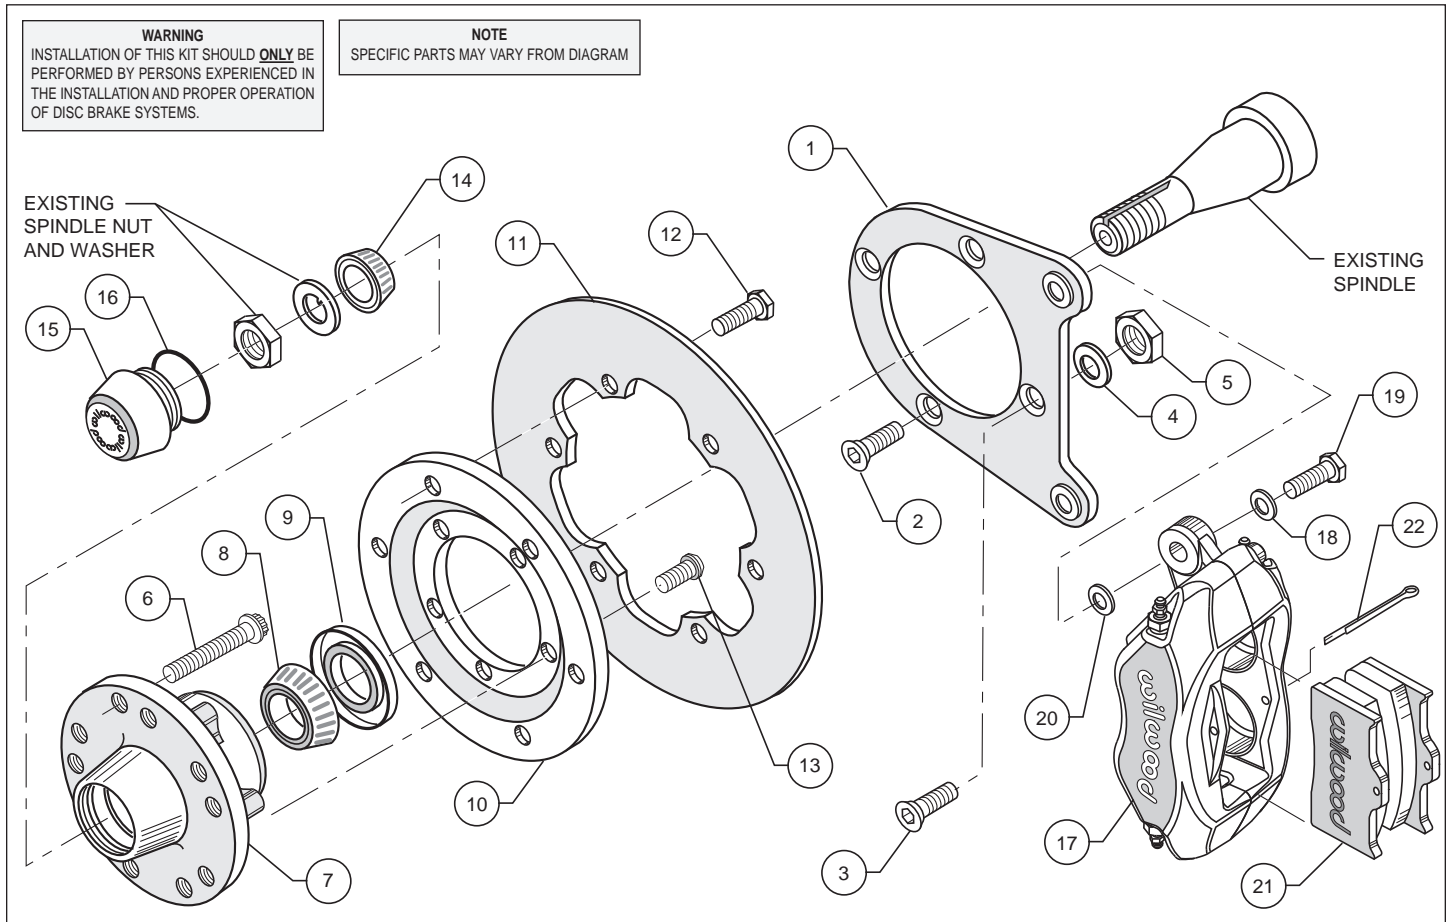

Figure 1. Typical Installation Configuration
- Mount the adapter/rotor assembly (10/11) to the hub (7) using bolts (13) (finger tight), as shown in Figure 1. Using an alternating sequence, remove bolts one at a time, apply red *Loctite*® 271 to the threads, and torque to 55 ft-lb.
- Pack the small outer bearing cone (14) with high temperature disc brake bearing grease and install into front of hub (7). Slide the hub/rotor assembly (7 and 11) with outer bearing cone (14) onto the spindle. Secure using stock washer, adjusting nut and nut locking device. Adjust bearings per Original Equipment Manufacturer (OEM) specifications.